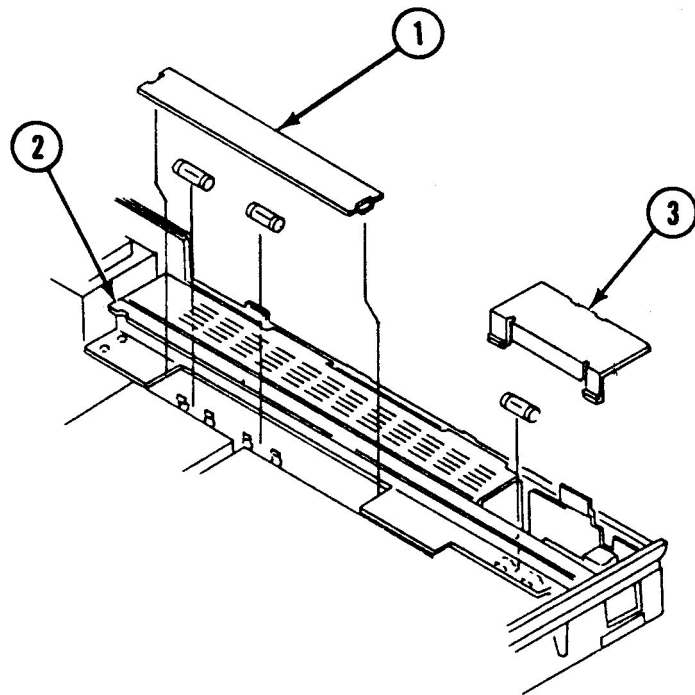

FIGURE 1
3. Remove the left guide rail housing (Figure 1, #1) from the guide rail (Figure 1, #2) by pulling up on the center of the housing with your forefinger. This will expose fuses 2 and 3 on the power supply board.
4. Remove the black plastic housing (Figure 1, #3) by squeezing on the inside part of the housing and lifting it out from the rail guide. This exposes fuse number 1.
2. Replace the plastic housing (Figure 1, #1) into the left rail guide by inserting one end and then slightly bowing the housing so that the tab on the other end fits into the rail.
3. Replace the black plastic housing (Figure 1, #3) by inserting the one tab into the bracket slot and then squeezing the other two tabs on the housing and slipping them into the slots on the guide rail.